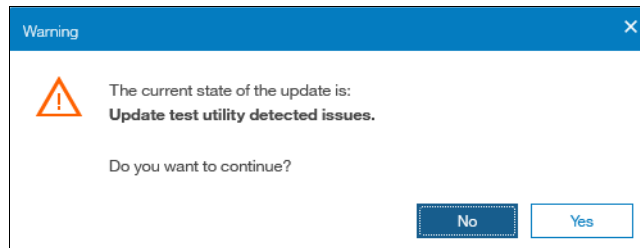

Figure 7-55 Warning before you can continue
12. Due to the utility detecting issues, another warning comes up to ensure that you have investigated them and are certain you want to proceed, as shown in Figure 7-55. When you are ready to proceed, click **Yes**.